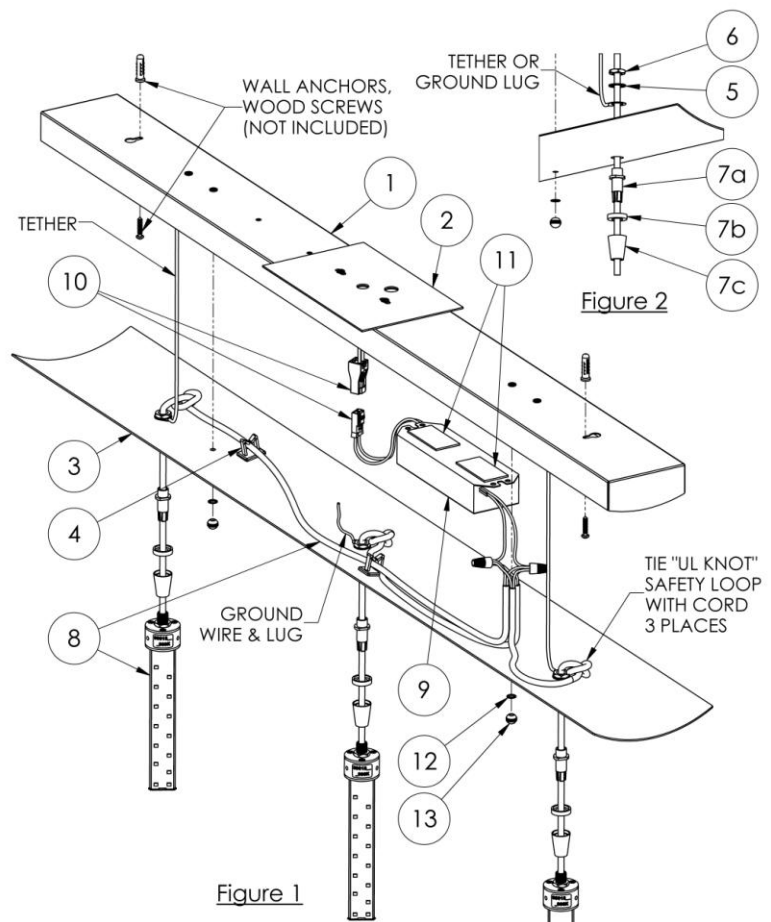

Figure 1
- Uncoil clear cords of the LED pendant holders (8) and thread the loose ends through strain relief parts (7c) & (7b). Thread cord thru small end of cone shaped part (7c) first, then finished side of (7b) as shown in, Figure 1 & 2.
- Determine the length of the 3 pendant cords from pendant holders (8) to canopy (3). Feed the clear cords through the previously assembled grippers (7a). Tighten the strain reliefs (7c) with (7b) onto (7a) in the desired positions.
- Double sided adhesive tape (11) is provided to affix the driver (9) to the channel (1). Affix tape to bottom of driver, and driver to inside of channel where there is adequate room to do so, Figure 1.
- Tie a safety loop, "UL knot" where the cord comes into the canopy per Figure 1. Depending on the length, excess cord may be coiled up inside the canopy, or cut and re-stripped.
- Dress the cords across the inside of canopy bringing the ends close to the driver (9). Use clips (4) as needed to contain the cords.
- Connect two pre-stripped wires from each LED pendant holder (8) cord to the driver with two blue wire nuts as follows:
- This unit will not operate properly unless connected to a "grounded" electrical circuit. Electrical shock, overheating, low or no light output, and shortened lamp life can result if proper grounding is not done.* Securely attach green (or green and yellow) wire from supply to green ground wire on canopy (1) with a wire nut.
- Assemble the canopy to the channel. Place two small holes in the canopy (3) onto two screws from channel (1). Tuck in the tethers and any wires that may be protruding from the channel around the top of the canopy.
- Secure canopy with two finial nuts (13) & washers (12) onto the channel screws, Figure 1.